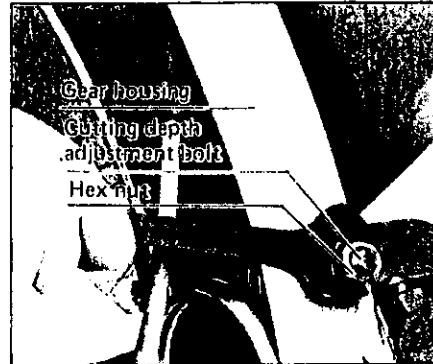

Fig. 4
* Does the safety cover operate smoothly when you raise and lower the head with the operating handle?	Fig. 4